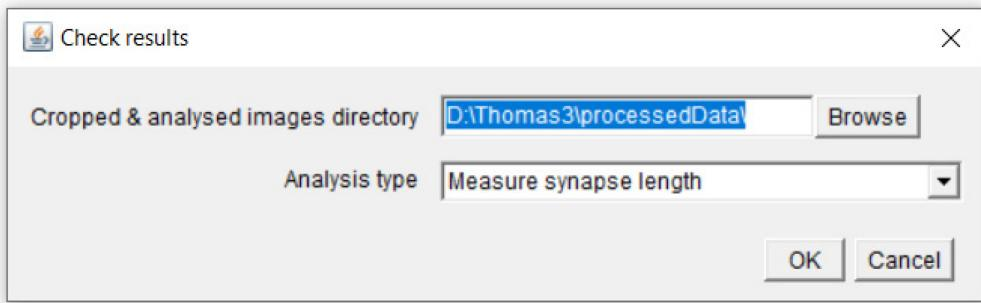

Figure 5.6. The check results menu
STEP8. To control the analysis accuracy, whenever the save ROIs option was selected, use the “Start checking results” in the main meiosis bar. The “Check results” menu pops up (figure 5.6). If you just run the macro, then the default folder and method are OK. If you control afterwards the macro’s results, set both folder and “Measure synapse length”.